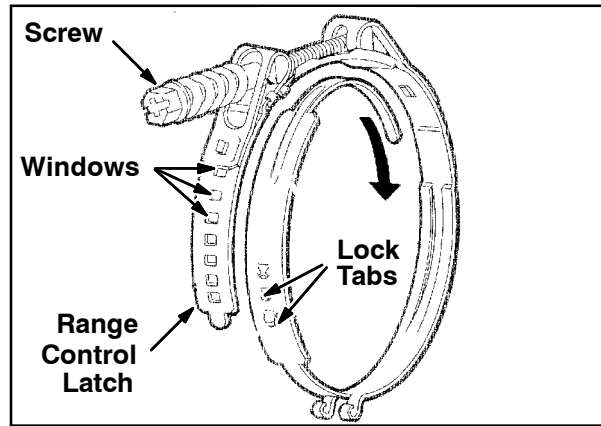

FIG. 2
2. Unhook the range control latch from the tabs and place the clamp over the hose. Refer to Fig. 2.
3. Engage all lock tabs in windows to highest position. There should be little or no play between the clamp and hose. Refer to Fig. 2.
4. Tighten the screw until the spring is fully compressed, and then tighten the screw three (3) more full turns. There should be a gap between the two D-nuts. Refer to manufacturer specifications for torque values.